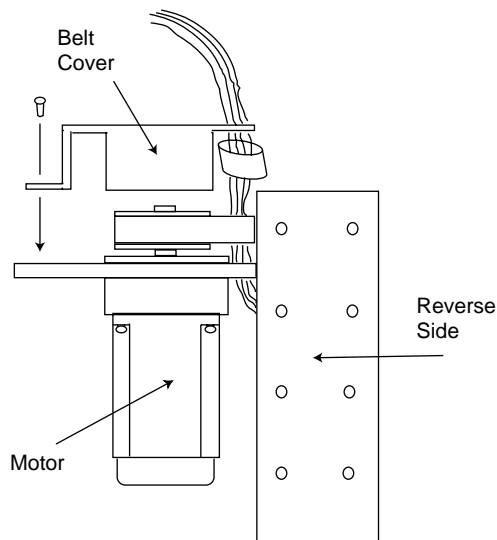

Figure B-10. Belt Cover Installation
16. Install the belt cover (see Figure B-10).